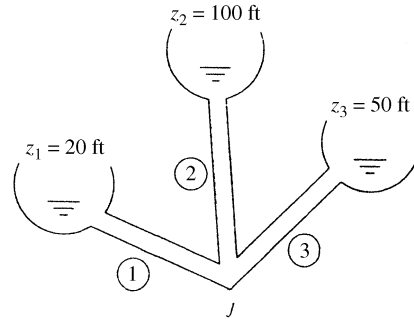

Fig. P6.124
6.124 The three-reservoir system in Fig. P6.124 delivers water at 20°C. The system data are as follows: